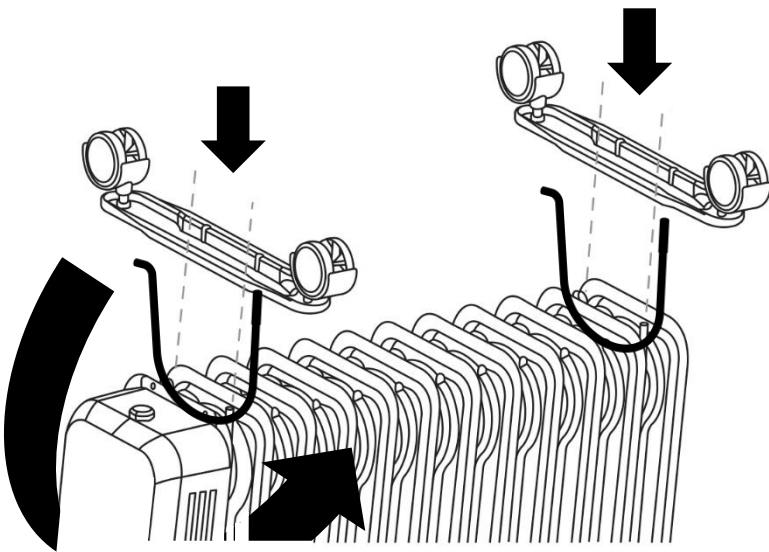

Fig. 1
2. As shown in Fig. 1, align the mounting holes on the castor assembly units with the screws on the castor pad plates, one at the bottom of the control panel and one at the bottom of the end radiator fin.